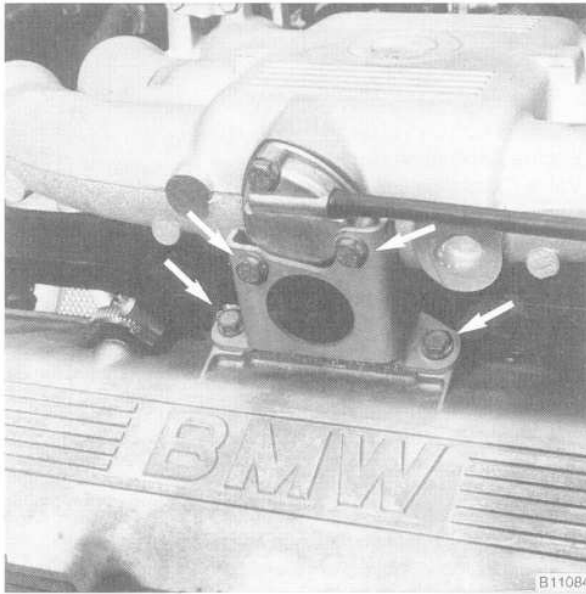

Fig. 1. Intake manifold support bracket mounting bolts (arrows).
1. Remove the intake manifold support bracket. See Fig. 1.